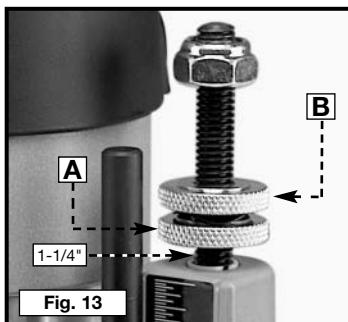

Fig. 13
- Turn lower-travel limiting nut (A) Fig. 13 until it is approximately 1/4" above the top of the plunge housing (Fig. 13). While holding lower nut, turn upper nut until it "jams" against the lower nut.